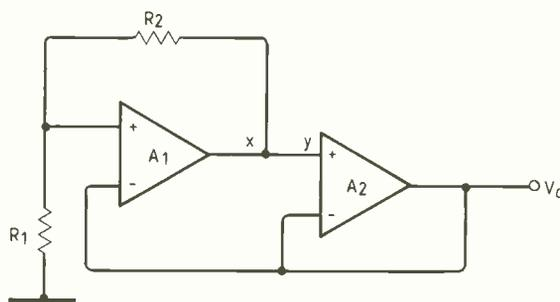

Fig.1. Active-R oscillator circuit. Frequency can be adjusted conveniently by replacing  $R_1$  with a j-fet and varying its gate-to-source voltage.
Fig.1. D.c. amplifier block diagram, in which  $I_{in}$  is the input current;  $R_f$  the input resistor;  $R_m$  a range-multiplier resistor;  $R_1$  the internal resistance of the meter; and  $V_m$  the range voltage. The meter can be replaced by a resistor terminating the input to a d.p.m., simplifying range switching.
The circuit is shown in Fig.1. Let the open-loop gain of the operational amplifiers be represented by the two-pole model given by
For the circuit of Fig.1. to produce and sustain oscillations, the transfer function of (2) must be equal to unity, giving
Fig.2. Output waveform at 250kHz of the circuit in Fig.1 with a j-fet replacing  $R_1$ ;  $V_{GS}$  of the j-fet is  $-1.5V$ ,  $R_2$  is  $3.3k\Omega$  and the op-amp's supply is  $\pm 10V$ .